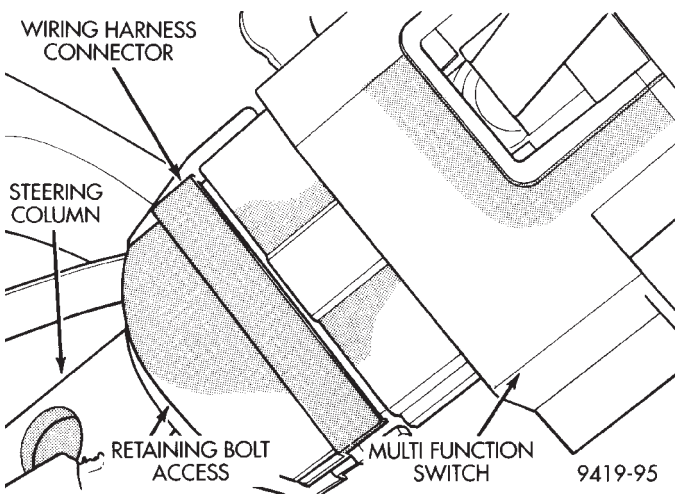

Fig. 18 Multi Function Switch Wiring Harness Connector Installed
- (5) Install wiring harness connector onto multi function switch (Fig. 18). Torque multi function switch wiring harness connector retaining bolt to 2 N·m (17 in. lbs.).